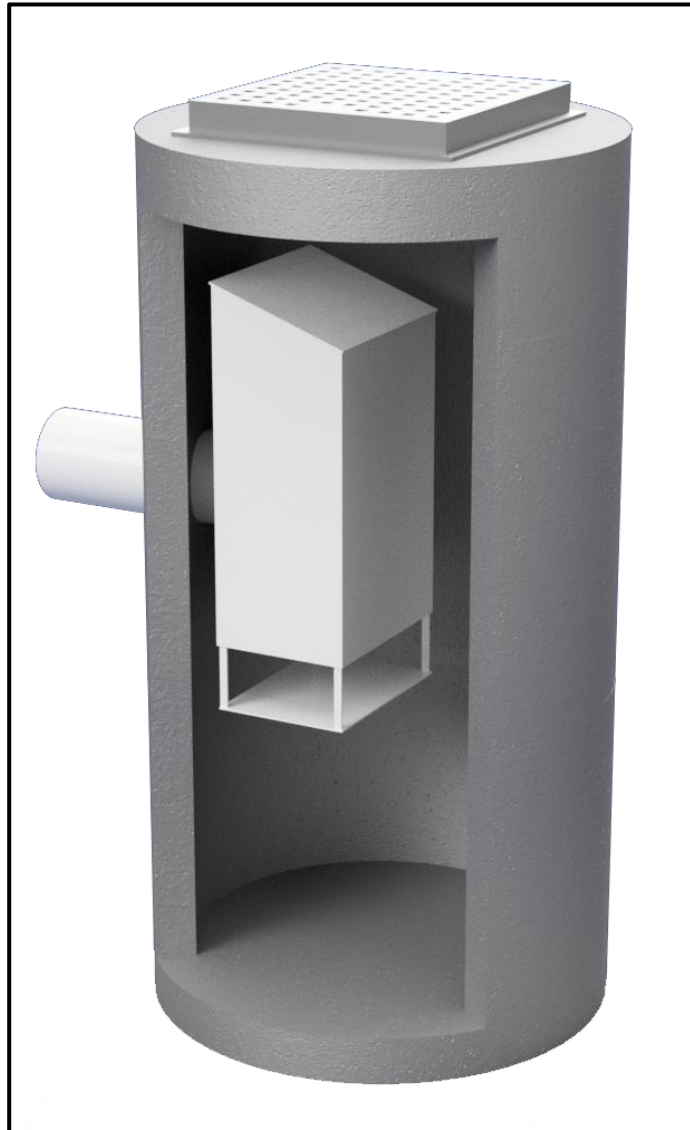
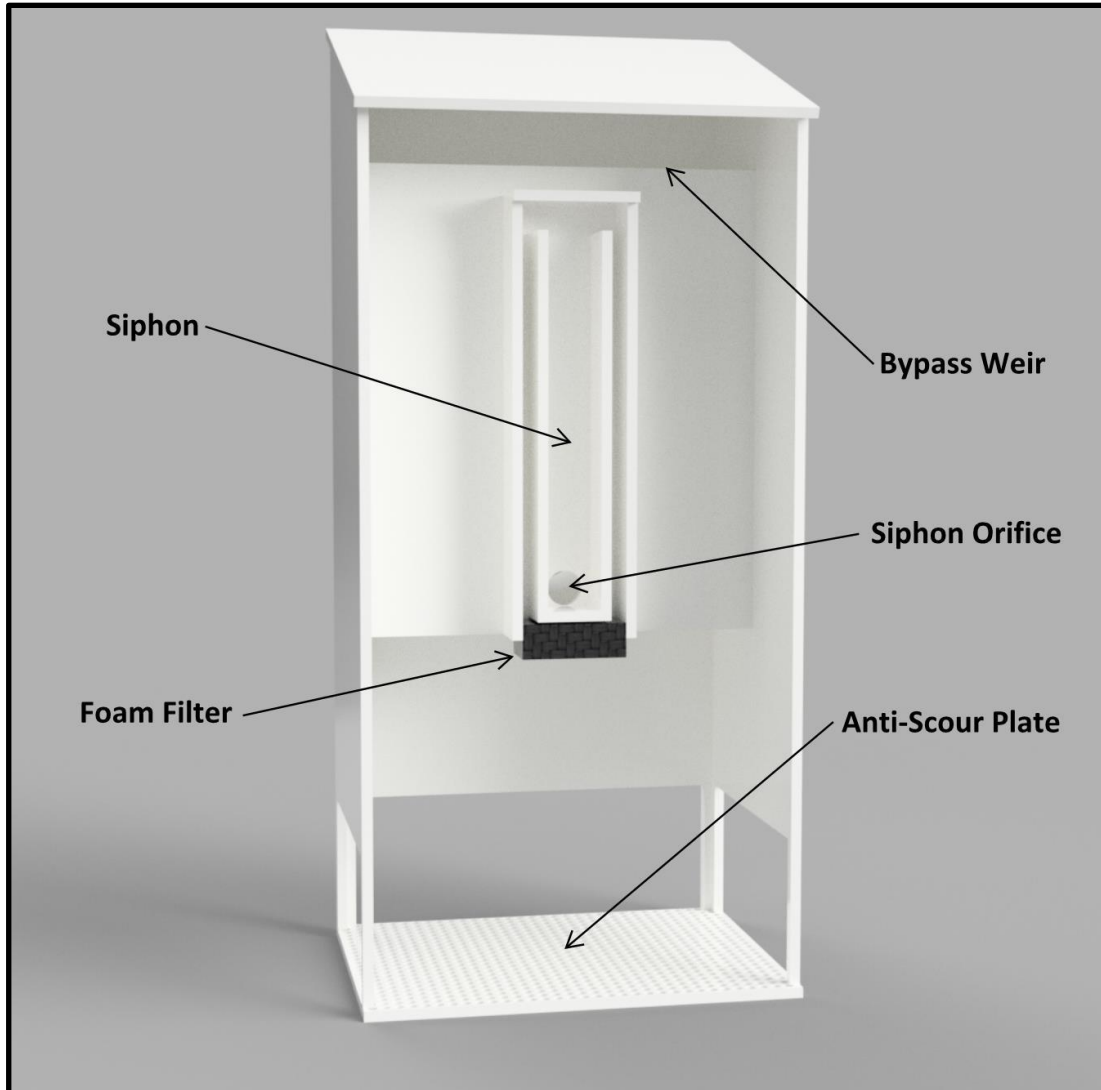

Figure 1. Hydroworks HydroDome
Figure 2. Hydroworks HydroDome Components (Front Cover Removed)
The Hydroworks HydroDome (HD) (Figure 1) is a unique since it incorporates a siphon that provides water quantity control (Figure 2). The siphon backs up water in the structure prior to any outlet discharge thereby making use of the active storage in the structure and upstream piping. This provides quantity control but also increased settling for water quality control. The raised water level in the structure prior to any discharge raises floatables out of the flow path to increase floatables retainment over simple hoods.